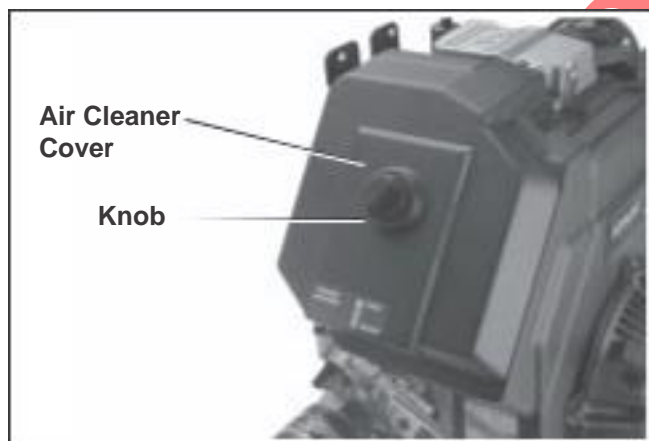

Figure 11-60. Installing Air Cleaner Cover.
7. Install the air cleaner cover and knob. See Figure 11-60.